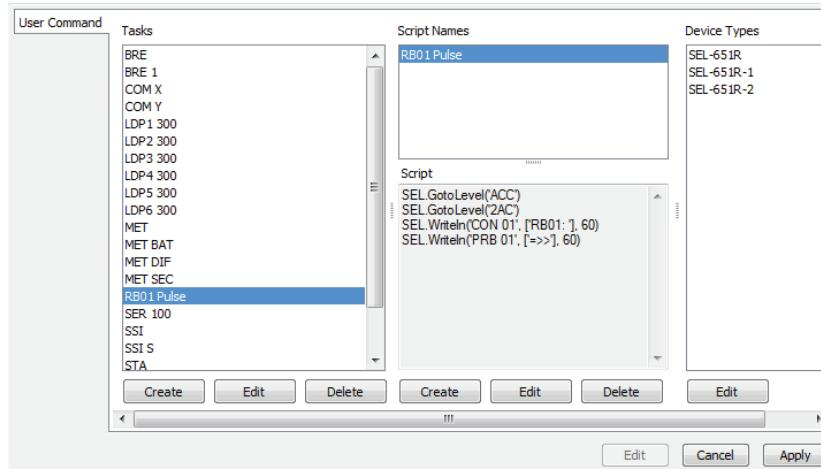

Figure 92 Devices Assigned
- Step 3. Select **Edit** under the **Device Types** column, select the SEL-651R family of devices, and select the double-chevron (=>>) icon. *Figure 92* shows the SEL-651R family added to the **Device Types** section for the task.
- Step 4. Select **Save All** (S) to apply the changes.